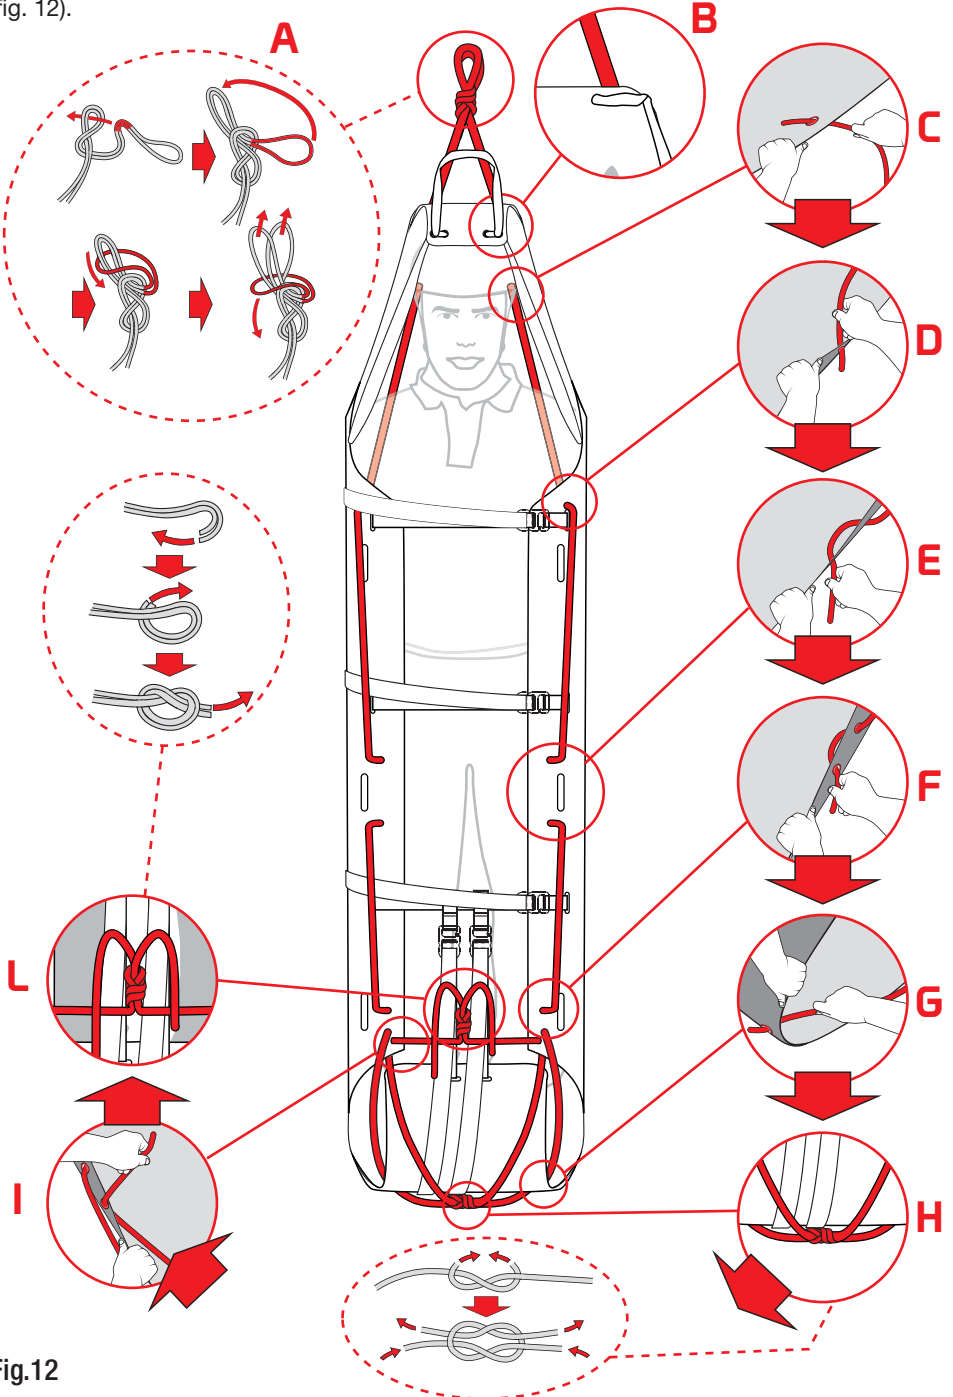

Fig.12
c) lifting/lowering or vertical lowering: insert the rope (H) in the holes A8 in the support surface (fig. 12).